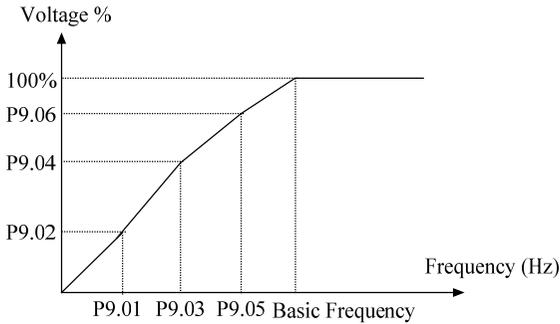

Figure. 5-9-2 V/F-curve defined by user
- ◆ When 4 is selected for P9.00, the user can self-define the V/F curve through P9.01~P9.06. As showed in Figure 5-9-2, the V/F curve is defined with the four-point broken line to be adapted for the special load characteristics.